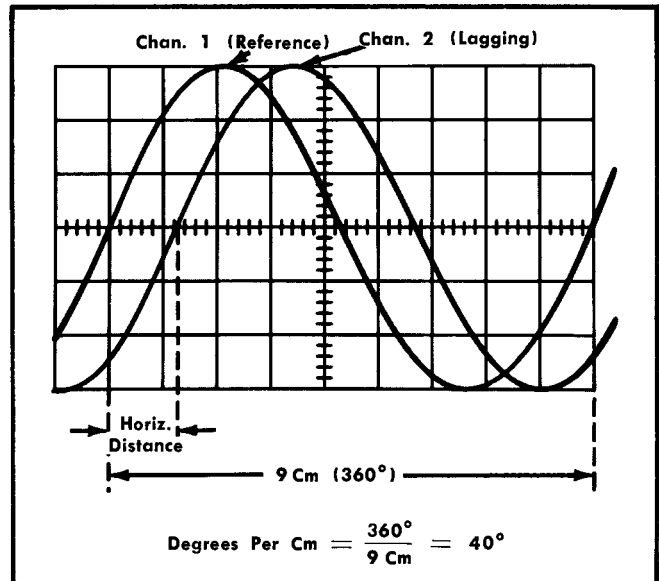

Fig. 3-4. Measuring phase shift between electrical waveforms.
point you desire. Each cm on the graticule now represents 40° of 1 cycle (see Fig. 3-4).
6. Measure the horizontal distance, in cm, between corresponding points on the waveforms. Note the distance and whether the Channel 2 waveform is leading or lagging (see Fig. 3-4).